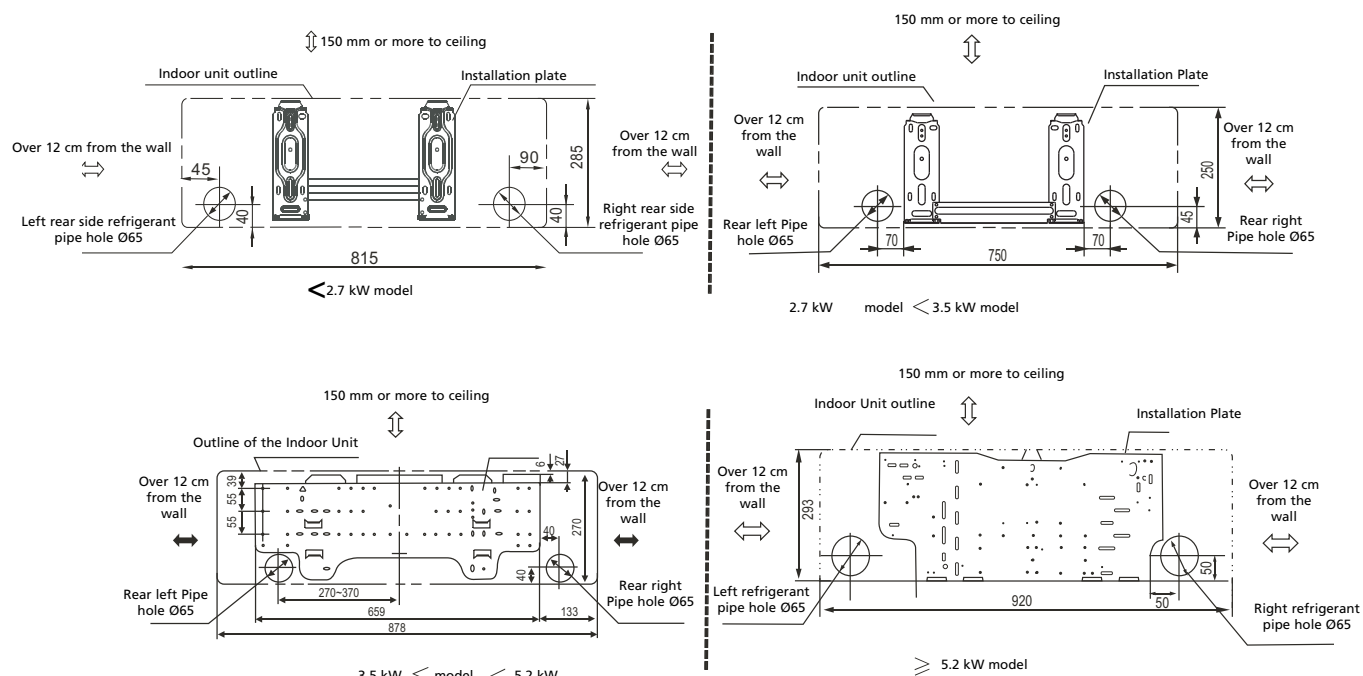

Fig. 5
1. Determine hole positions according to the diagram detailed in Fig.5. drill one (1) hole (65mm) slanting slightly downwards to outdoor side, this will prevent water to come indoors.